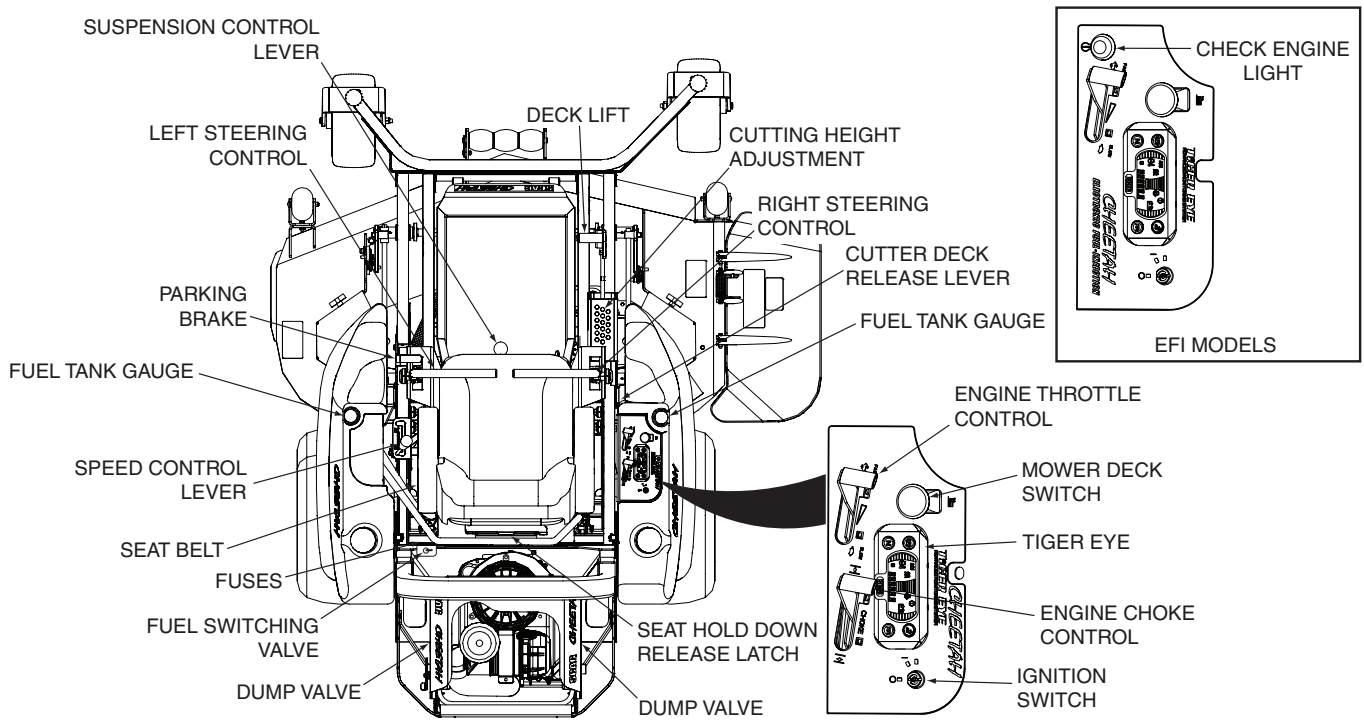

Figure 4-2. Controls and Instruments
12. **Fuse Holders (Figure 4-2).** Two 20-amp fuses protect the mower's electrical system. To replace fuses, pull fuse out of the socket and install a new fuse.
1. **Ignition Switch (Figure 4-2).** The ignition switch is used to start the engine and has three positions; OFF, ON, and START.
2. **Mower Deck Switch (Figure 4-2).** Used to engage and disengage the mower drive system. Pulling up on the switch will engage the deck drive. Pushing down on the switch will disengage the deck drive.
3. **Engine Choke Control (Figure 4-2).** Used to start a cold engine.
4. **Engine Throttle Control (Figure 4-2).** Used to control the engine speed. Pushing the lever forward increases engine speed. Pulling the lever back decreases engine speed. Full back position is the IDLE position. Full forward is the cutting position.
5. **Left Steering Control (Figure 4-2).** Used to control the mower's left wheel when traveling forward or reverse.
6. **Right Steering Control (Figure 4-2).** Used to control the mower's right wheel when traveling forward or reverse.
7. **Fuse Holders (Figure 4-2).** Two 20-amp fuses protect the mower's electrical system. To replace fuses, pull fuse out of the socket and install a new fuse.
8. **Parking Brake Control (Figure 4-2).** Used to engage and disengage the parking brakes. Pull the lever back to engage the parking brakes. Push the lever forward to disengage the parking brakes.
9. **Fuel Tank Gauge (Figure 4-2).** Indicates the amount of fuel in the fuel tank.
11. **Deck Lift Foot Lever (Figure 4-2).** Used to raise and lower the cutter deck. Push full forward to lock in the transport position.
12. **Cutting Height Adjustment (Figure 4-2).** Used to set the cutter deck at the desired cutting height.
14. **Speed Control Lever (Figure 4-2).** Used to select the mowers operating range. For the best performance while cutting, the LOW speed should be selected. HIGH speed should be selected for transport operation.
15. **Suspension Control Lever (Figure 4-2).** Used to select the optimum suspension rate based on the operator.
16. **Seat Belt (Figure 4-2).** Used to secure the operator. Seat belt must be worn at all times when the ROPS is in the upright and locked position.
17. **Seat Hold Down Release Latch (Figure 4-2).** Located behind the seat. Used to secure the seat in the operator's position. Release the latch to gain access under the seat.
18. **Check Engine Light (Figure 4-2).** Indicates the operation of the engine sensors on the Fuel Injection Engines (EFI). If a problem occurs with a sensor on the engine, the light will flash a code. See your authorized Scag Dealer for diagnosis and repair.